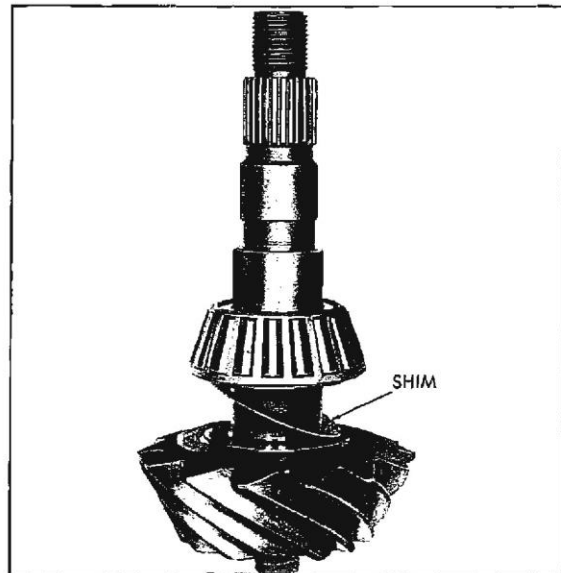

Fig. 4-38 Pinion Shim
NOTE: Ten (10) shims are available in increments of (.002") two thousandths from .020" to .038" (Fig. 4-38).